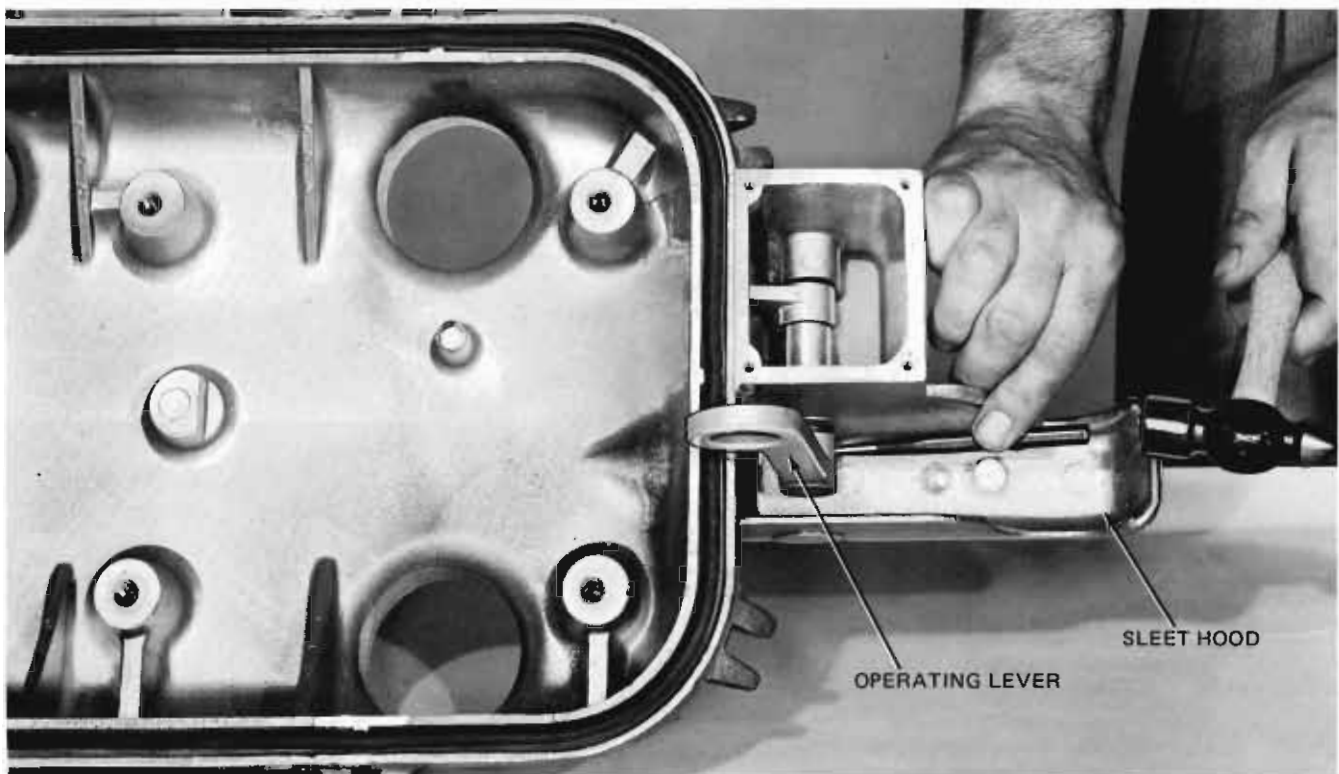
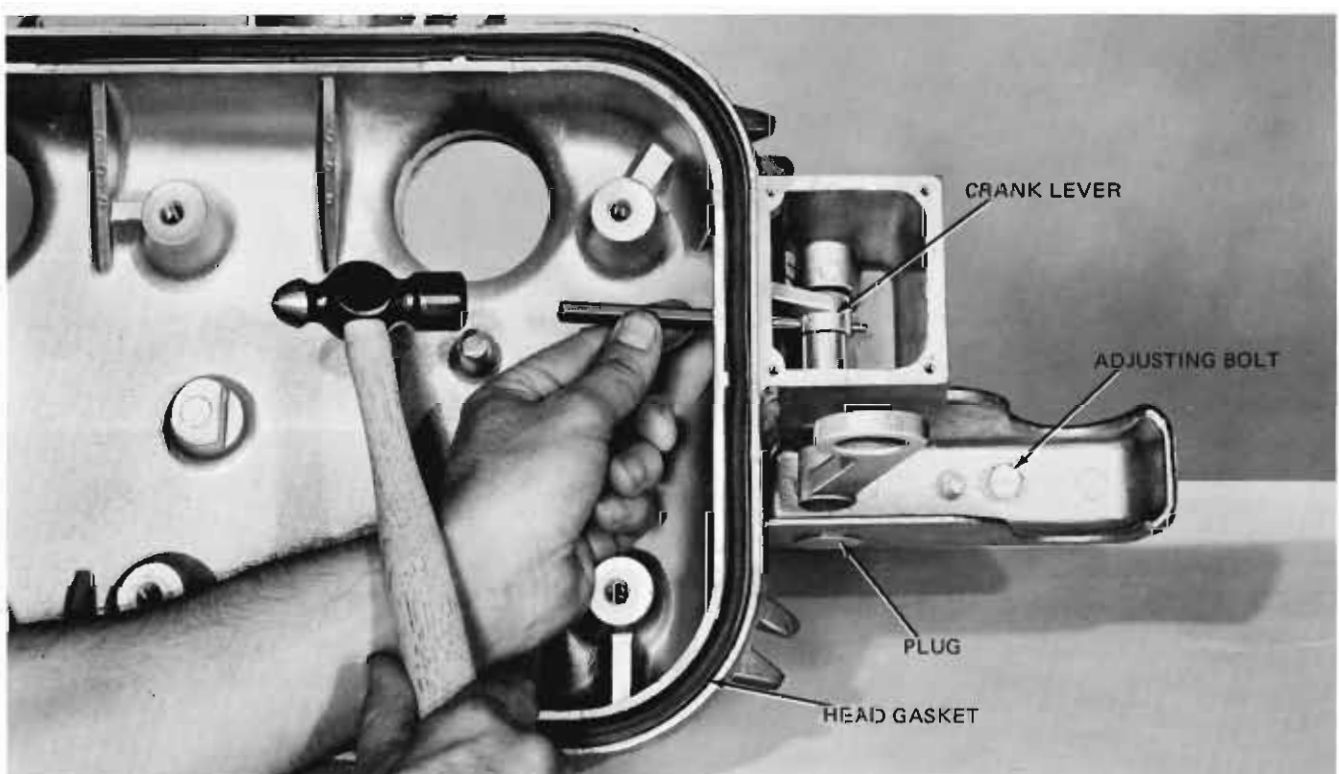

Figure 25
Figure 26
1. Drive out pin in operating lever as shown in Figure 25. Then drive out pin in crank lever as illustrated in Figure 26.